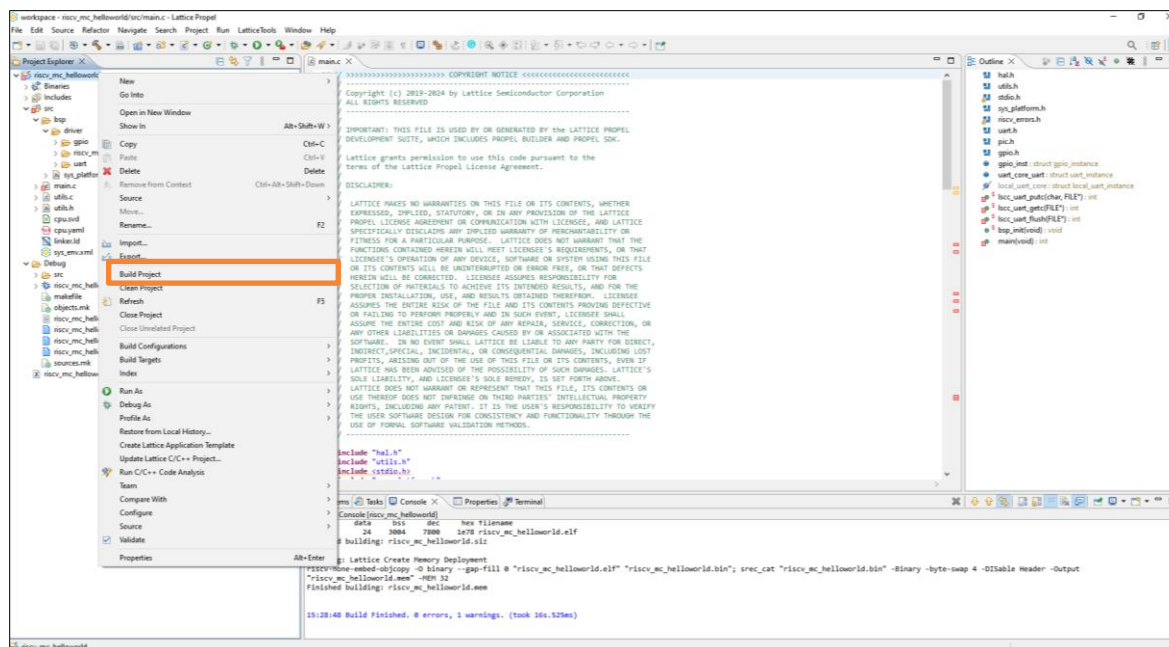
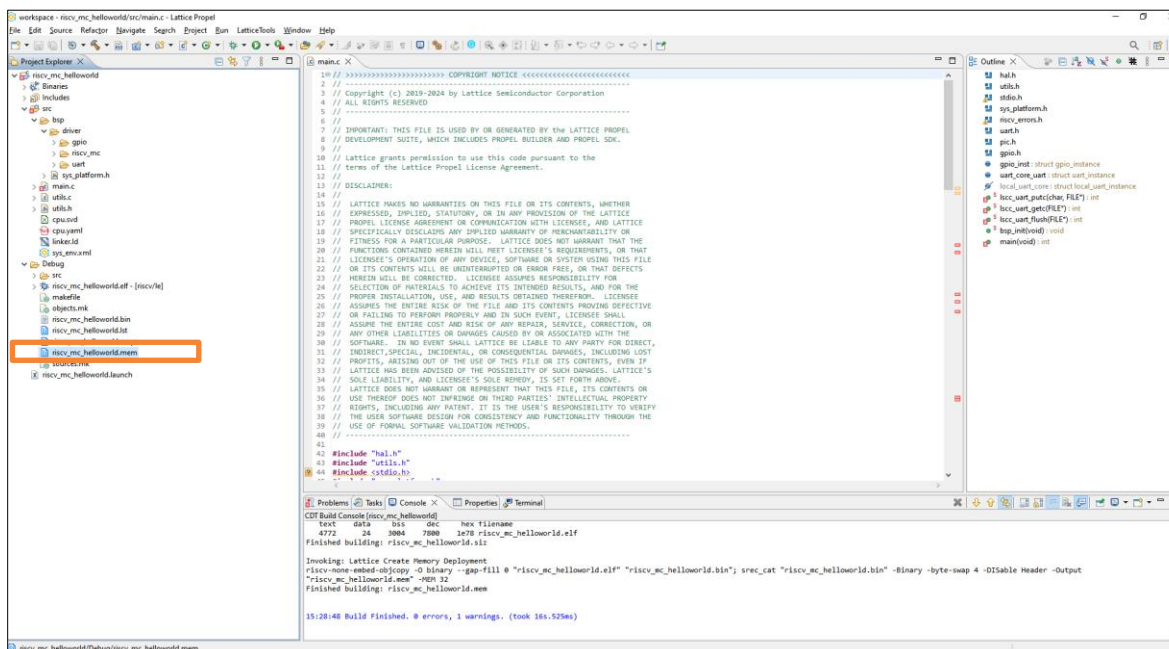

Figure 2.125. Build C/C++ Project
Figure 2.126. Mem File for Simulation
6. In Propel SDK, right click on Project and then click **Build Project** (Figure 2.125). A mem file is generated in **Debug** folder (Figure 2.126).